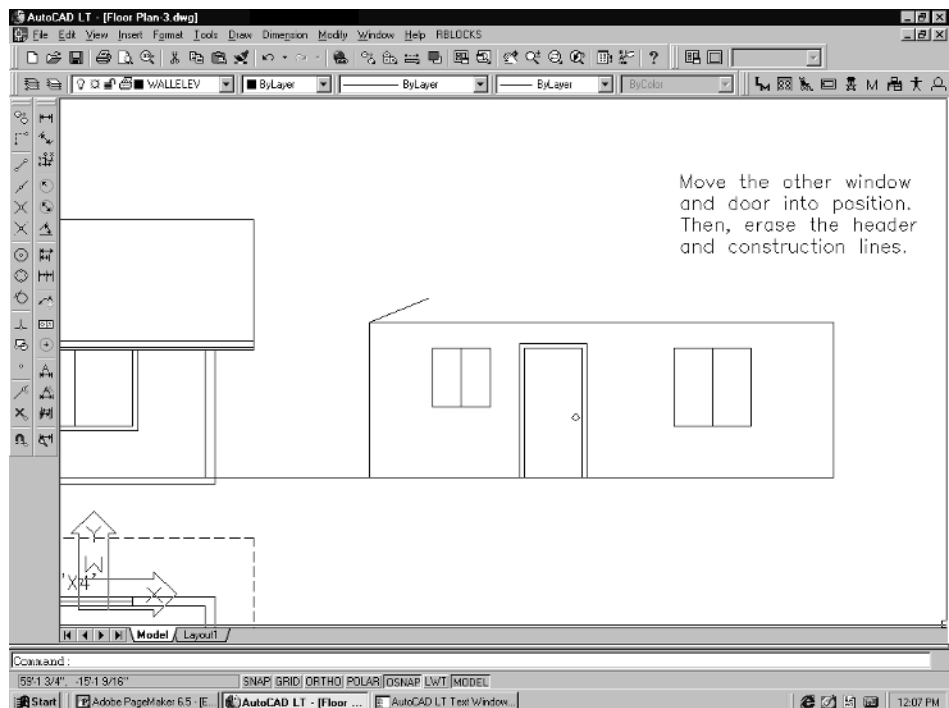

Figure 4-31
10. Hit your right mouse button and pick **Repeat Move** or, type **M** and **Enter**. Continue to move the other window and the door into position. Then, erase the header and construction lines, as shown in Figure 4-31.